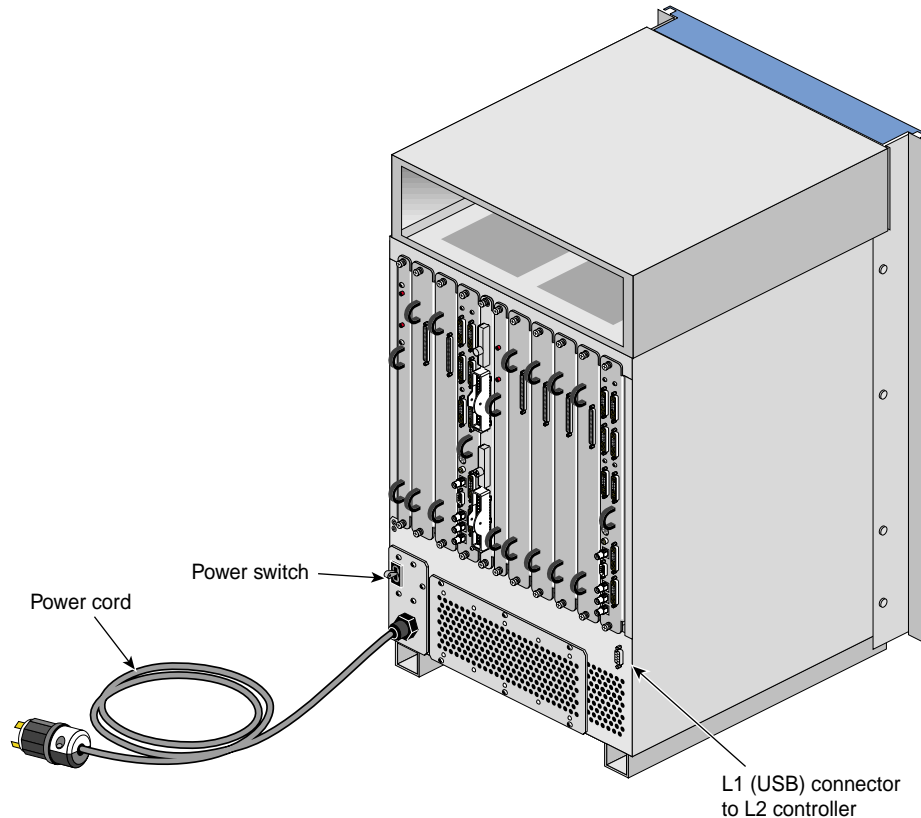

Figure 2-17 InfiniteReality Graphics Module Power Switch
3. Set the power switch of the InfiniteReality graphics module to the On position. Figure 2-17 shows the location of the power switch.